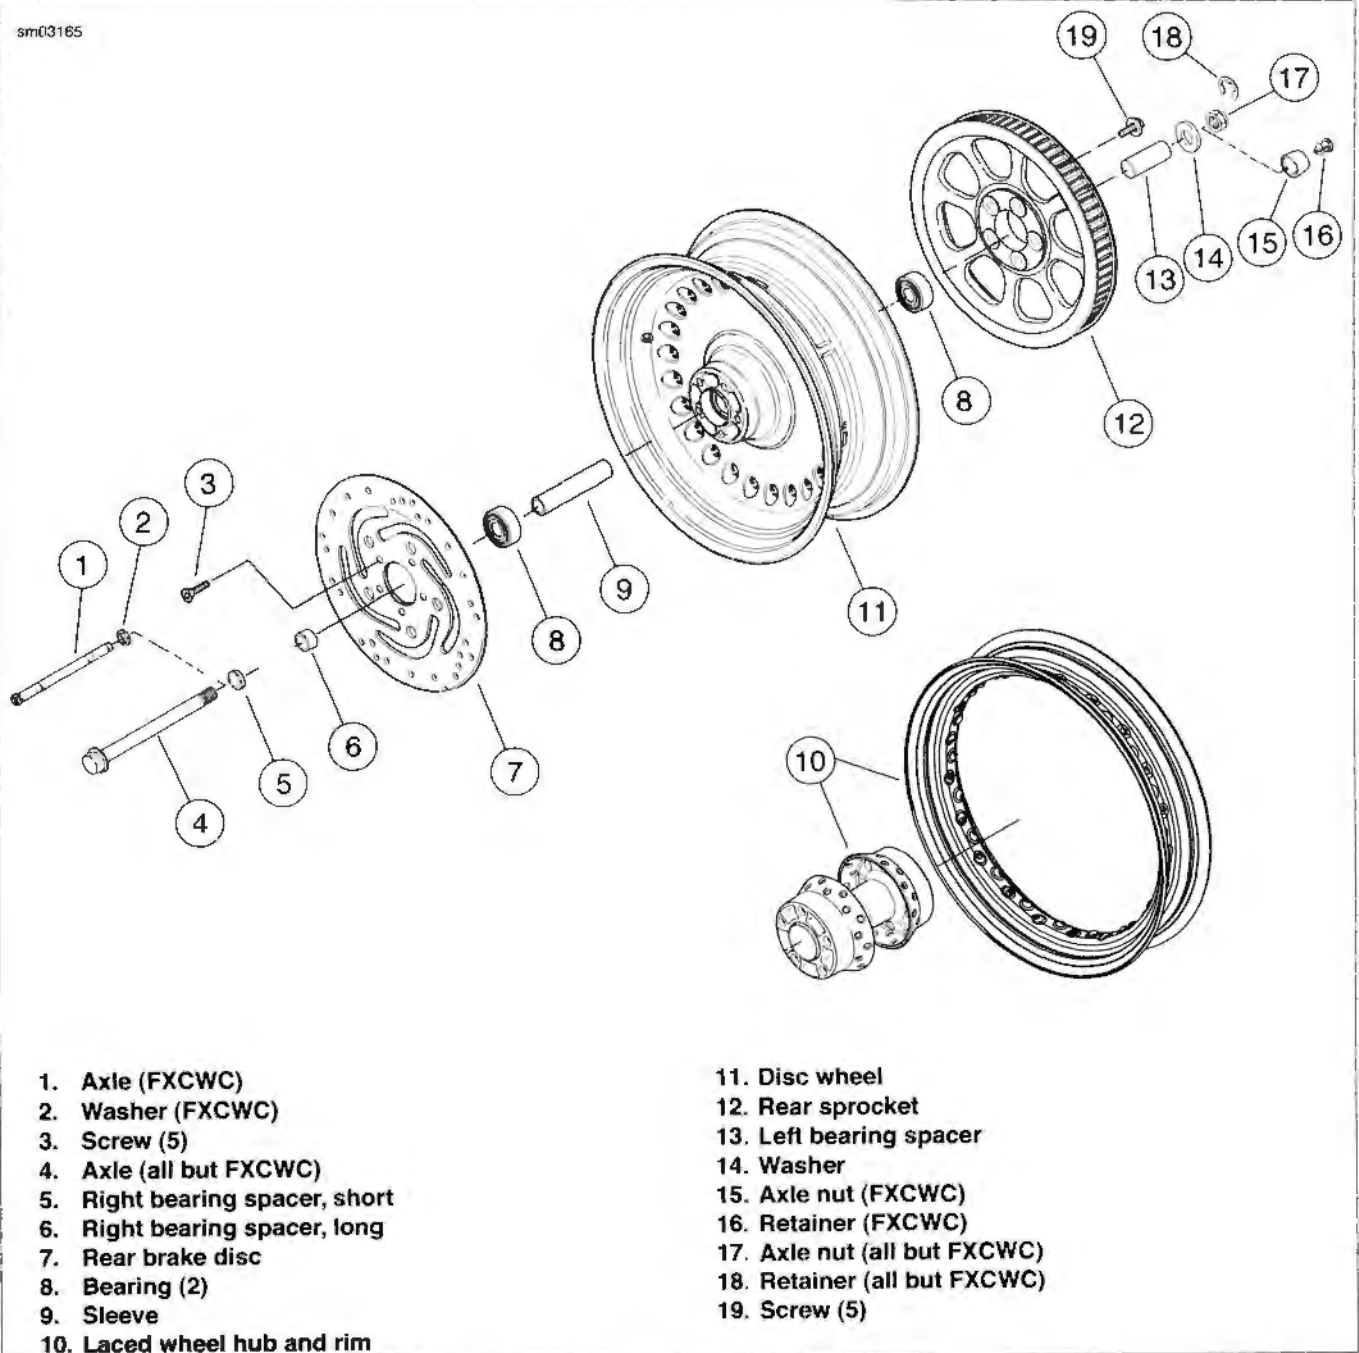

Figure 2-10. Rear Wheel/Hub (typical)
1. See Figure 2-10. Remove spacers (5, 6, 13) from left and right sides, if not already previously removed.
- a. Remove five screws (19) to detach rear sprocket (12). Discard screws.
- b. Remove five screws (3) to remove rear brake disc (7). Discard screws.
1. See Figure 2-10. If laced wheel (10) was disassembled, see 2.8 WHEEL LACING, 2.8 WHEEL LACING, or 2.8 WHEEL LACING.
1. See Figure 2-10. Apply a light coat of LOCTITE ANTI-SEIZE LUBRICANT to the axle (1, 4), bearing bores, and the bore of the inner sleeve (9).
3. Position left bearing spacer (13) between wheel and fork.
4. From right side, carefully insert axle [with washer (2) for FXCWC] through right rear fork, short spacer (5), rear caliper mounting bracket, long spacer (6) and into bearing bore.